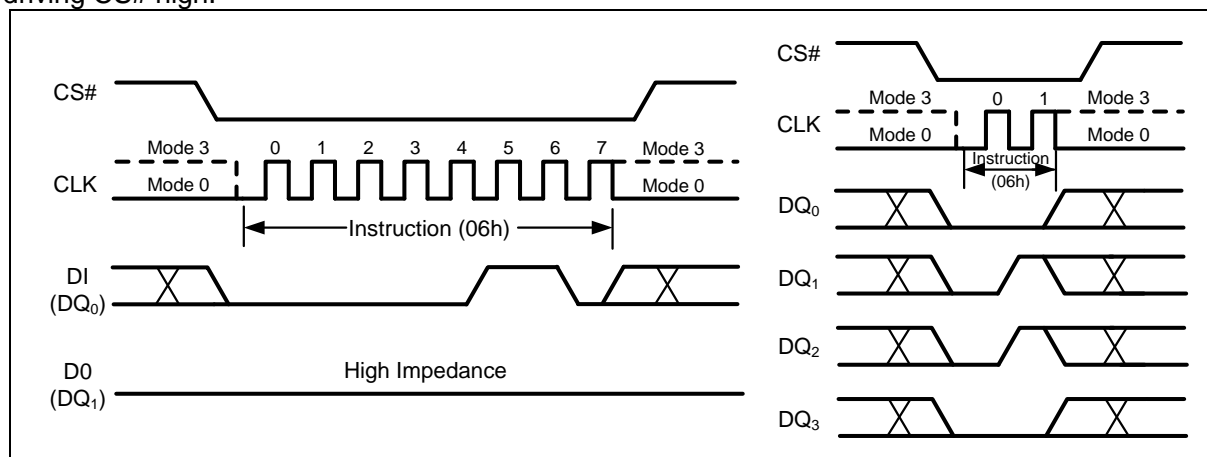

Figure 9 Write Enable Instruction for SPI Mode (left) or QPI Mode (right)
Instructions vary in length from a single byte to several bytes and may be followed by address bytes, data bytes, dummy bytes (don't care), and in some cases, a combination. Instructions are completed with the rising edge of edge CS#. Clock relative timing diagrams for each instruction are included in Figure 9 through Figure 76. All read instructions can be completed after any clocked bit. However, all instructions that Write, Program or Erase must complete on a byte boundary (CS# driven high after a full 8-bits have been clocked) otherwise the instruction will be ignored. This feature further protects the device from inadvertent writes. Additionally, while the memory is being programmed or erased, or when the Status Register is being written, all instructions except for Read Status Register will be ignored until the program or erase cycle has completed.
The Write Enable (WREN) instruction (Figure 9) sets the Write Enable Latch (WEL) bit in the Status Register to a 1. The WEL bit must be set prior to every Page Program, Quad Page Program, Sector Erase, Block Erase, Chip Erase, Write Status Register and Erase/Program Security Sectors instruction. The Write Enable (WREN) instruction is entered by driving CS# low, shifting the instruction code “06h” into the Data Input (DI) pin on the rising edge of CLK, and then driving CS# high.